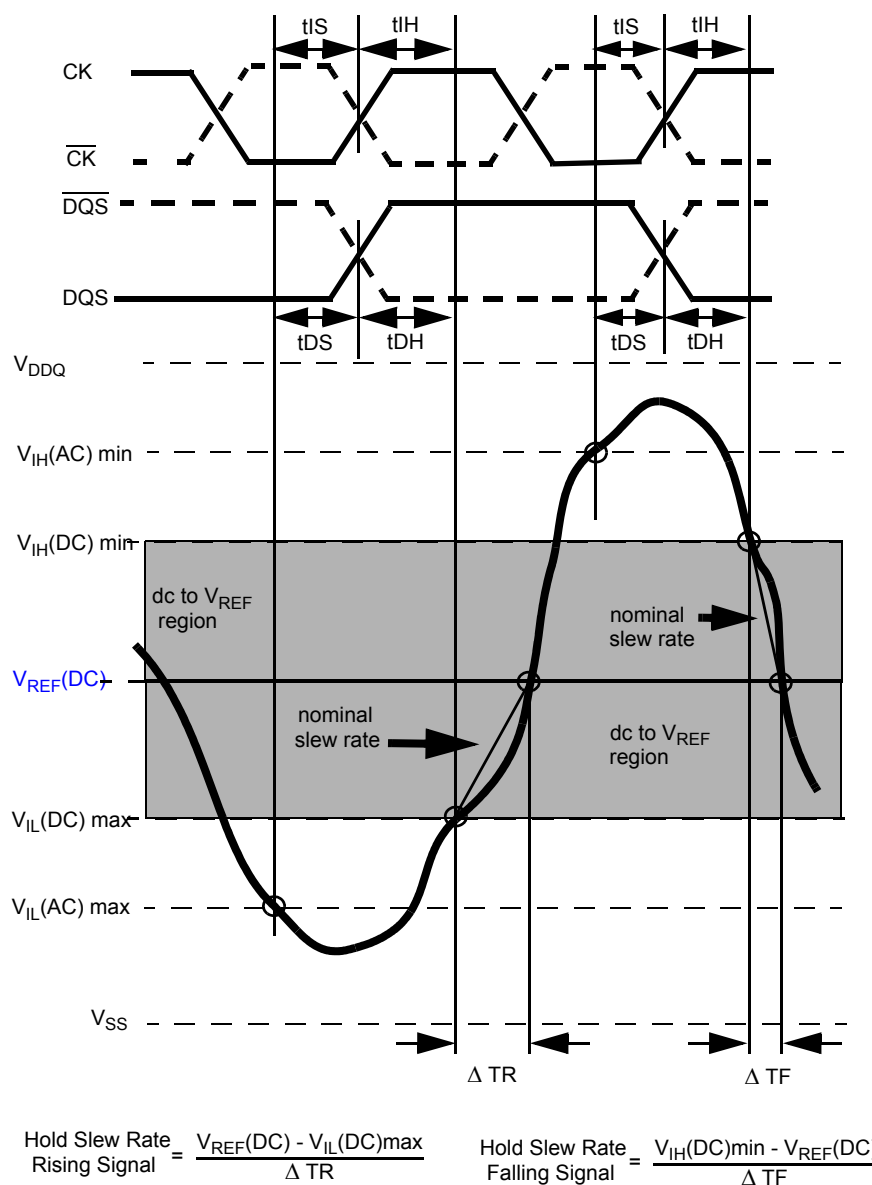
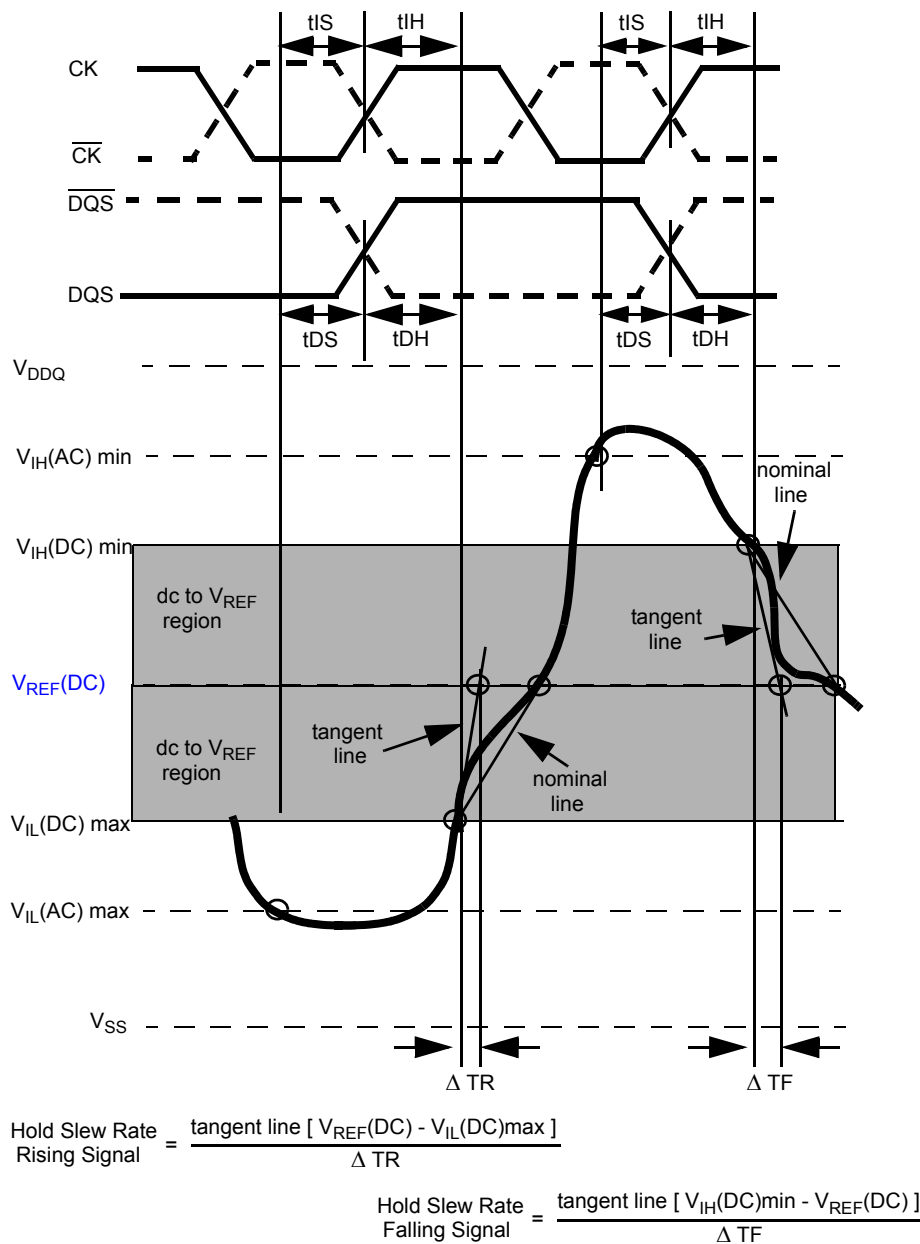

Figure 22. Illustration of nominal slew rate for hold time t_{DH} (for DQ with respect to strobe) and t_{IH} (for ADD/CMD with respect to clock).
Figure 24. Illustration of tangent line for hold time t_{DH} (for DQ with respect to strobe) and t_{IH} (for ADD/CMD with respect to clock)
Hold (tIH) nominal slew rate for a rising signal is defined as the slew rate between the last crossing of V_{IL}(DC)max and the first crossing of V_{REF}(DC). Hold (tIH) nominal slew rate for a falling signal is defined as the slew rate between the last crossing of V_{IH}(DC)min and the first crossing of V_{REF}(DC). If the actual signal is always later than the nominal slew rate line between shaded 'dc to V_{REF}(DC) region', use nominal slew rate for derating value (see Figure 22). If the actual signal is earlier than the nominal slew rate line anywhere between shaded 'dc to V_{REF}(DC) region', the slew rate of a tangent line to the actual signal from the dc level to V_{REF}(DC) level is used for derating value (see Figure 24).